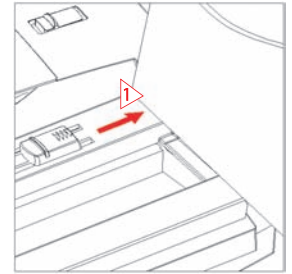

Figure-9
1. Measure the document thick, so you can decide to choose what size plastic comb as shown figure-9.